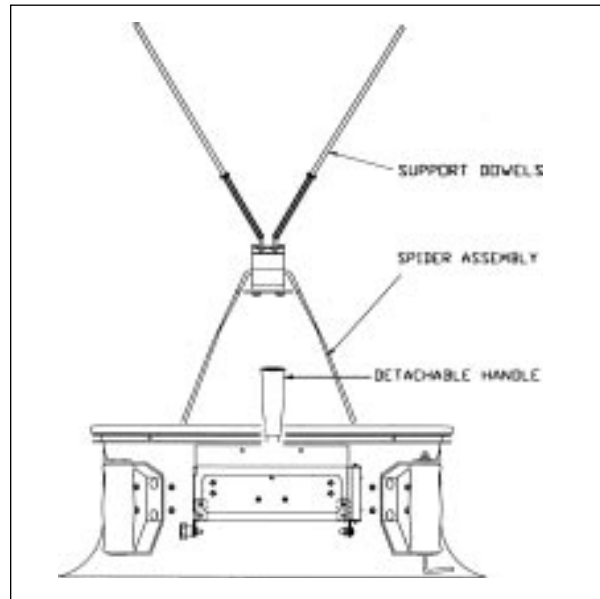

Figure 4—Instrument assembly
Step 4: Unfold the spider assembly mechanism. See Figure 4. This mechanism will now be inserted into the four hood support brackets located in each corner of the base. Grasp one of the wire formed legs in each hand. Insert each of the legs into the center hole of the hood support brackets. Grasp the remaining two legs and insert them into the center holes of the remaining hood support brackets. If it is later found that the hood is not held as tautly as required, the spider assembly can be moved upward to compensate.
Step 5: Place the four support dowels on the spider assembly mechanism as shown in Figure 4. The aluminum tips on the dowels should be facing up. If a 2 x 4 or 3 x 3 (600 x 1200 or 900 x 900 mm) hood set is to be used, the set of 8 inch (200 mm) long dowels must be added to either end of the long dowels.
Step 7: If desired, install the detachable handle next, as shown in Figure 4.